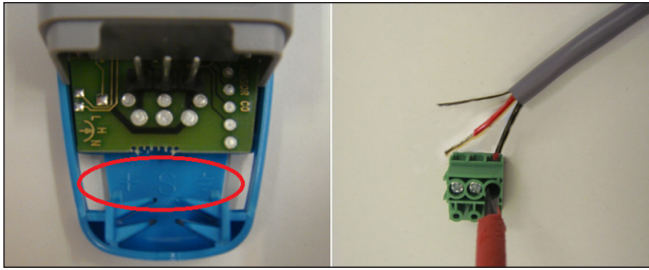

Figure 8. EAFR-01 sensor connection step 2.
2. Before connecting the cable to connector, make sure that the connecting order is correct (+, signal, shield). The appropriate pins information is shown on the blue bottom part of the sensor. Plug the wires into connector and fasten them by using a screw driver (see Figure 8).